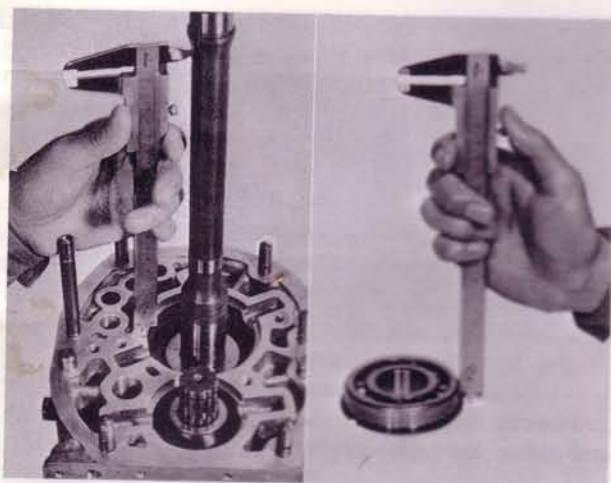

Fig. 7-22 Checking end play
17. Check the main shaft bearing end play, proceed as follows: Measure the depth of the main shaft bearing bore in the clutch housing by using a depth gauge. Then, measure the main shaft bearing height shown in Fig. 7-22. The difference between the two measurements indicates the required thickness of the adjusting shim. The standard end play is 0 ~ 0.1 mm (0 ~ 0.0039 in). The adjusting shims are available in the following thickness: